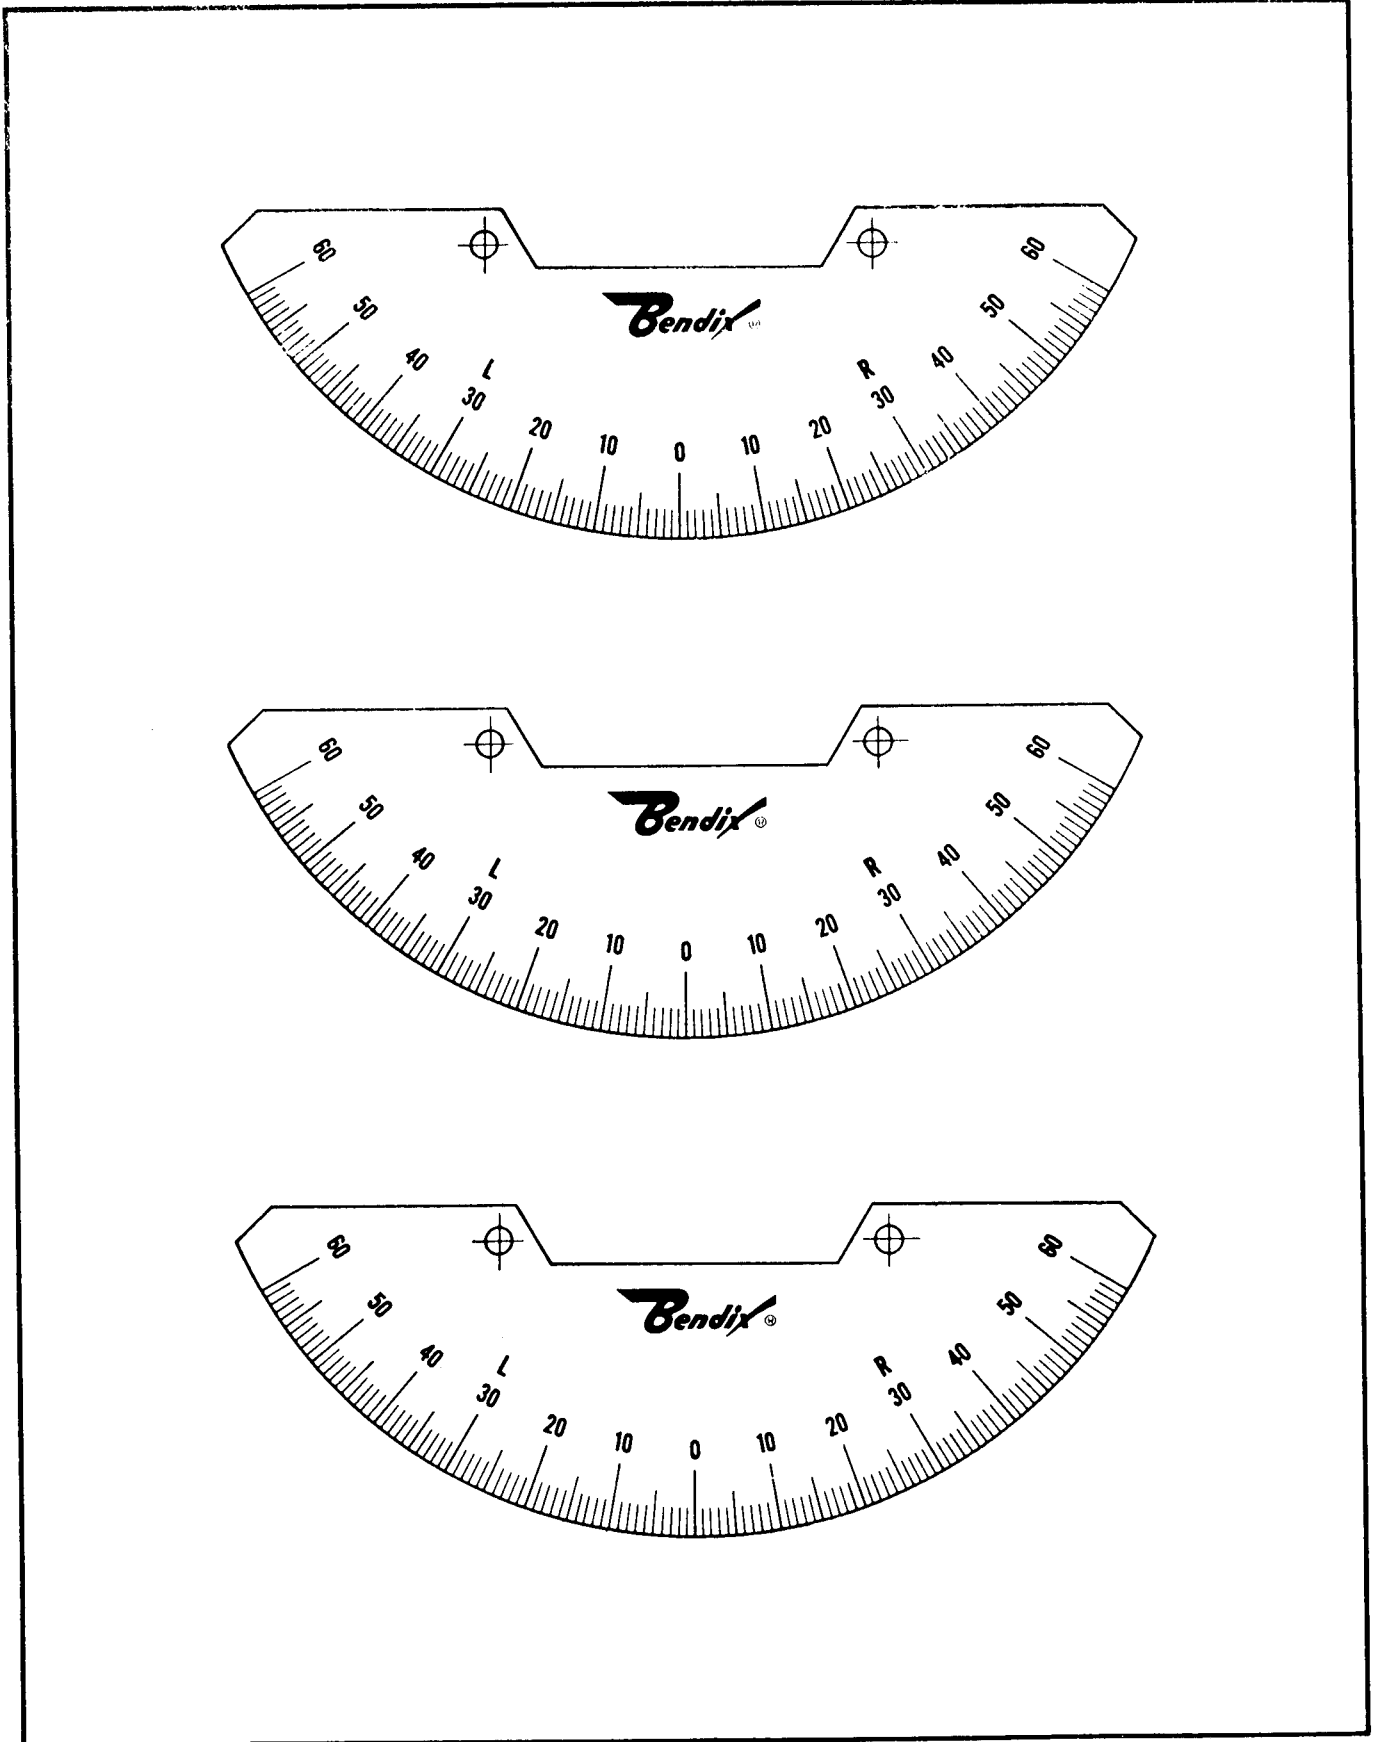

Figure 12-9. Magneto Timing Templates
- 1. Cut a paper template from figure 12-9.
The No. 1 magneto outlet is identified with the No. "1." The magneto fires at each successive outlet in direction of rotation. No. 1 magneto outlet routes to No. 1 cylinder, No. 2 magneto outlet to the next cylinder to fire, etc. Ignition schematics are shown in figures 12-9 thru 12-12.